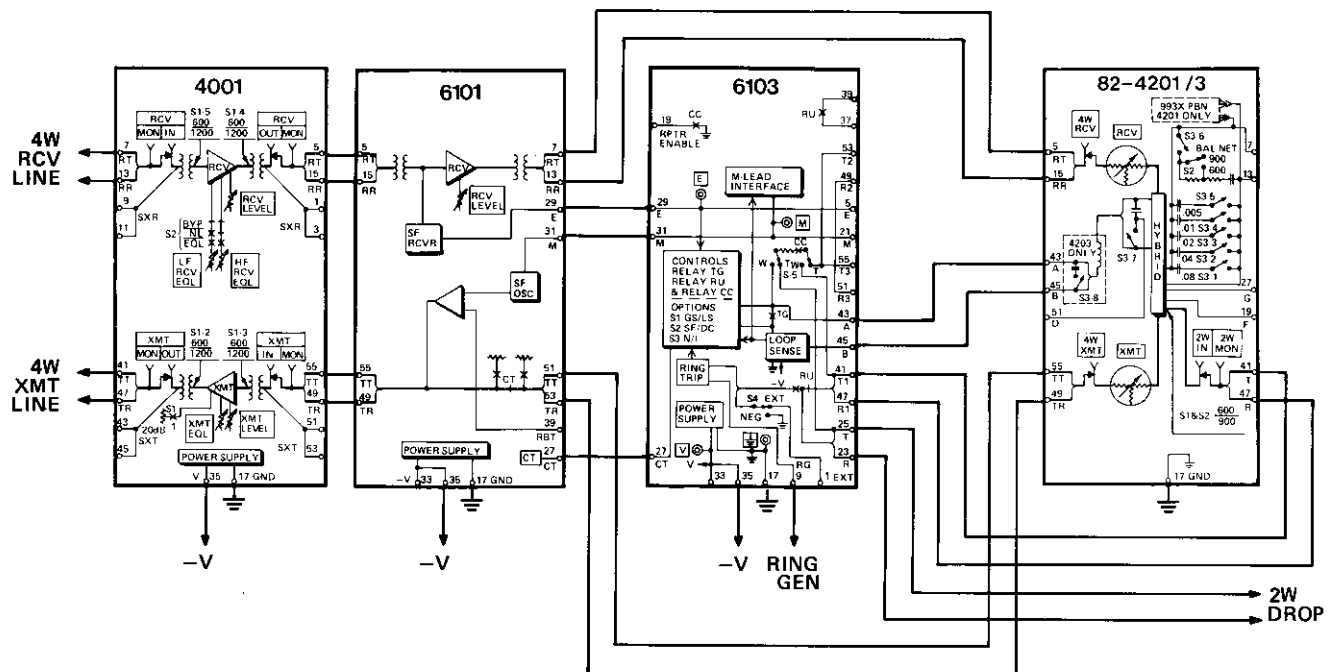

figure 2. Typical wiring for the 6101 in a 260 or 261 System
2.02 The 6101 is designed to interface 4wire facilities at standard +7 receive and -16 transmit TLP's. A Line Amplifier (e.g., Tellabs' 4001) is often required to establish proper transmission levels between a metallic facility and the 6101. On both the terminal side and the facility side, the 6101 provides transmit and receive transmission pairs. If the terminal-side termination is 2wire, a 4wire-to-2wire Terminating Set (e.g., Tellabs' 420X) is required to interface the 6101 SF Transceiver and 610X Signaling Converter with the 2wire equipment. The combination of Line Amplifier, SF Transceiver, Signaling Converter, and Term Set provides the basis for Tellabs' 260 and 261 Signaling and Terminating Systems. Please consult the appropriate System Practice for specific information on the 6101 as used in that System. Wiring for the 260 and 261 Systems is shown in figure 2 in section 3 of this Practice.
3.05 When the 6101 module is used as part of the 260 or 261 System, all intermodule wiring is factory-wired and external connections are simplified by the use of terminal strips or blocks. Refer to the 260 or 261 System Practice for detailed information. A typical wiring scheme within a 260 System is shown in figure 2.